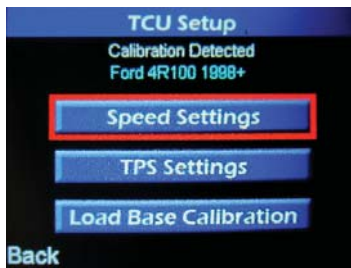

Figure 21
1. To alter, select “SPEED SETTINGS” using the “UP” and “DOWN” arrow buttons and press the “OK” button (Figure 21).